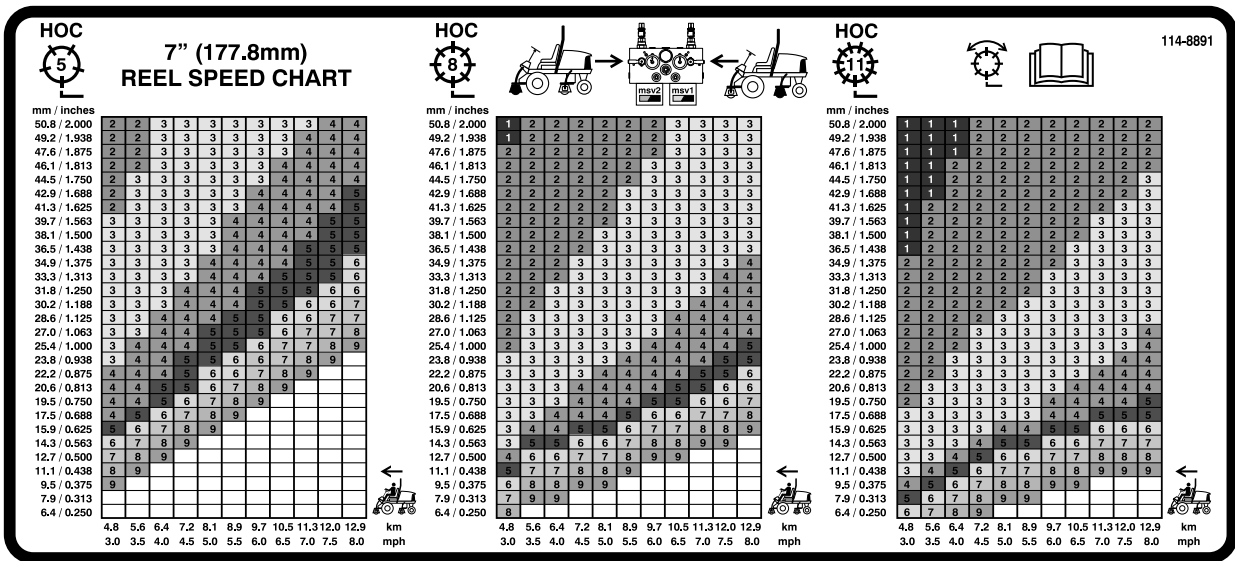
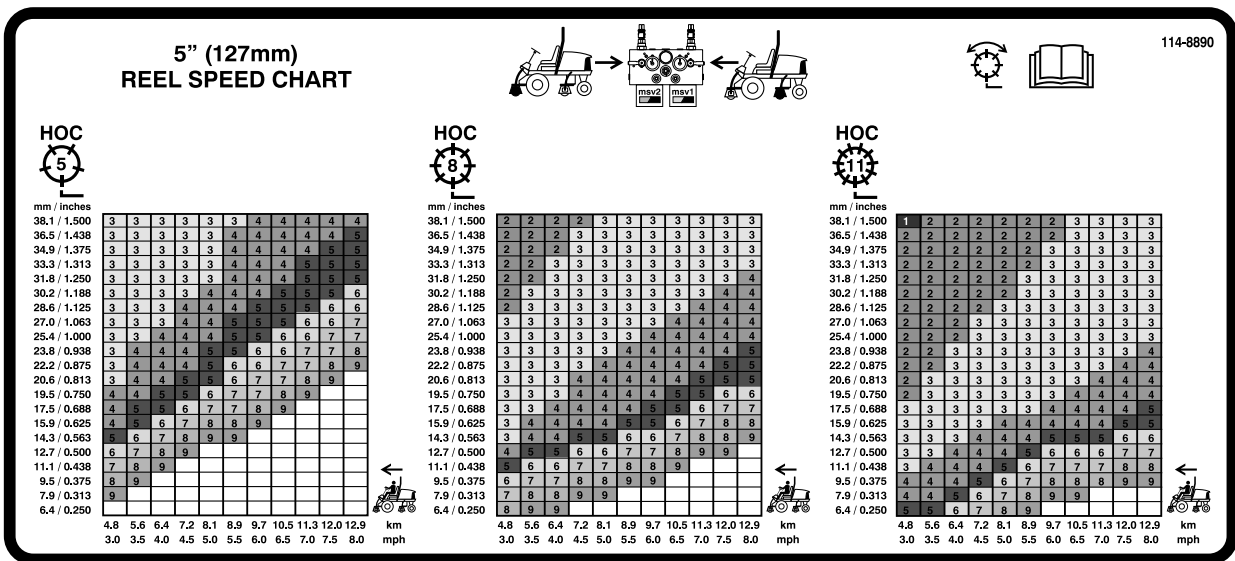

Figure 41
Figure 42
3. Using the appropriate graph on decal 110-0996 (Figure 41) for Reelmaster 5510 & 5610, 7 inch reel cutting units or decal 110-8923 (Figure 42) for Reelmaster 5210 & 5410, 5 inch reel cutting units determine the proper reel speed setting.